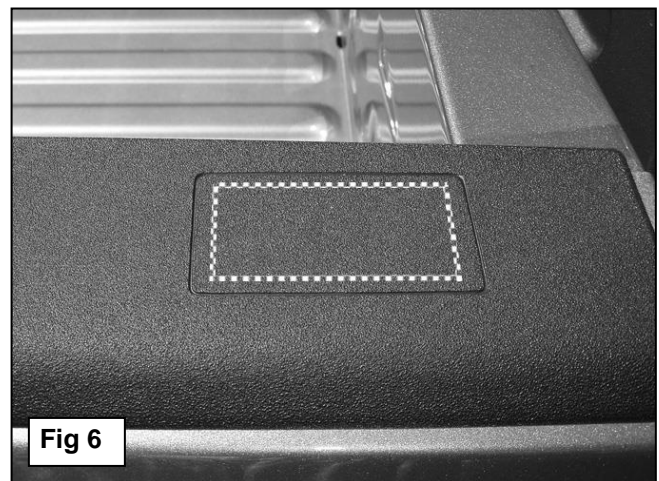

Fig 6
- Determine if the forward holes in the Brackets line up with the front stake pockets. **NOTE:** On some vehicles, the front stake pocket may be covered with a plastic bed cap. Remove or cut out the cover as required to gain access to the stake pocket, **(Figure 6)**.